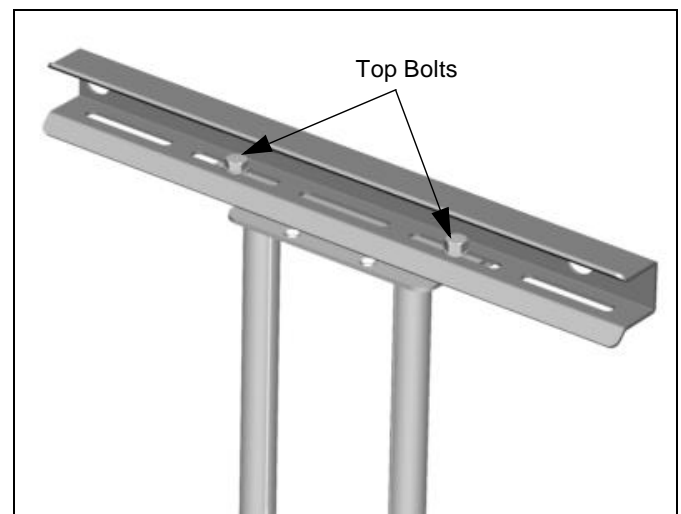

Figure 11
2. Loosen four bolts (two on the top and two on the bottom) securing the swing arm assembly to the top and bottom mounting brackets (See Figure 11).